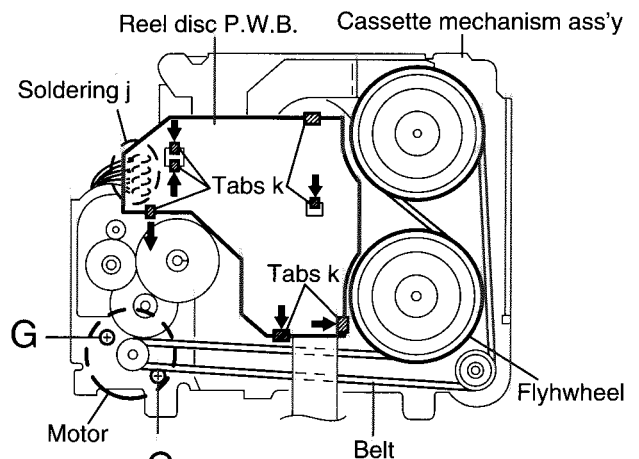

Fig.10
**■ Removing the reel disc P.W.B. (See Fig.10)**
**■ Removing the motor and the sub motor (See Fig.10 and 11)**